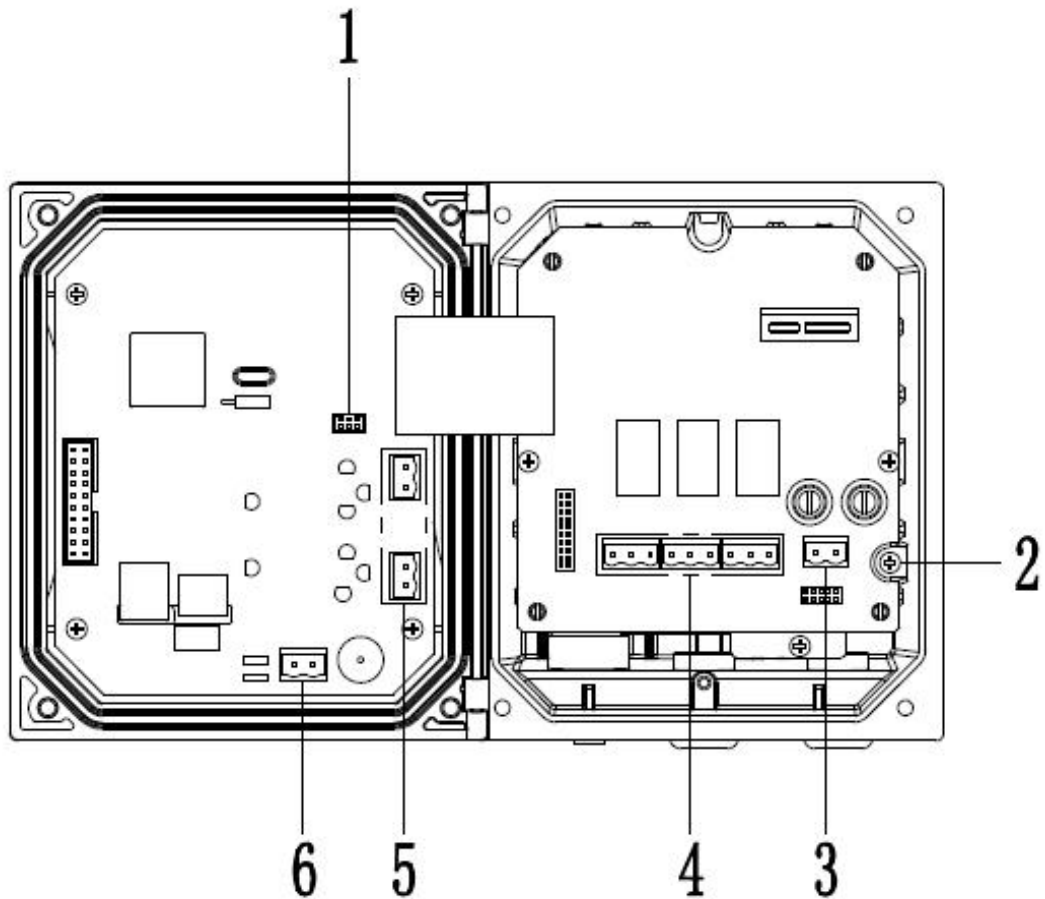

Figure 7 Preview of the Wiring
Figure 7 is the preview of internal wiring of the transmitter. Table 3 is the wiring signal of the transmitter.
A. the transmitter is equipped with MODBUS RS485 communication function, please refer to this manual section 2.1.3 figure 7 to check the communication wiring. The transmitter is with RTU mode of communication, and the default baud rate is 9600, the specific MODBUS RTU table is shown in the following table.